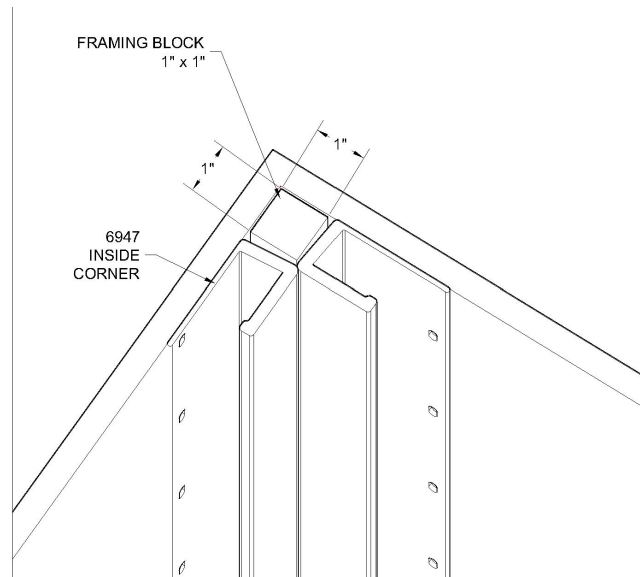

Fig. 1
- 3) To achieve a uniform inside corner, install a 1" x 1" block along the height of the wall (Fig. 1).